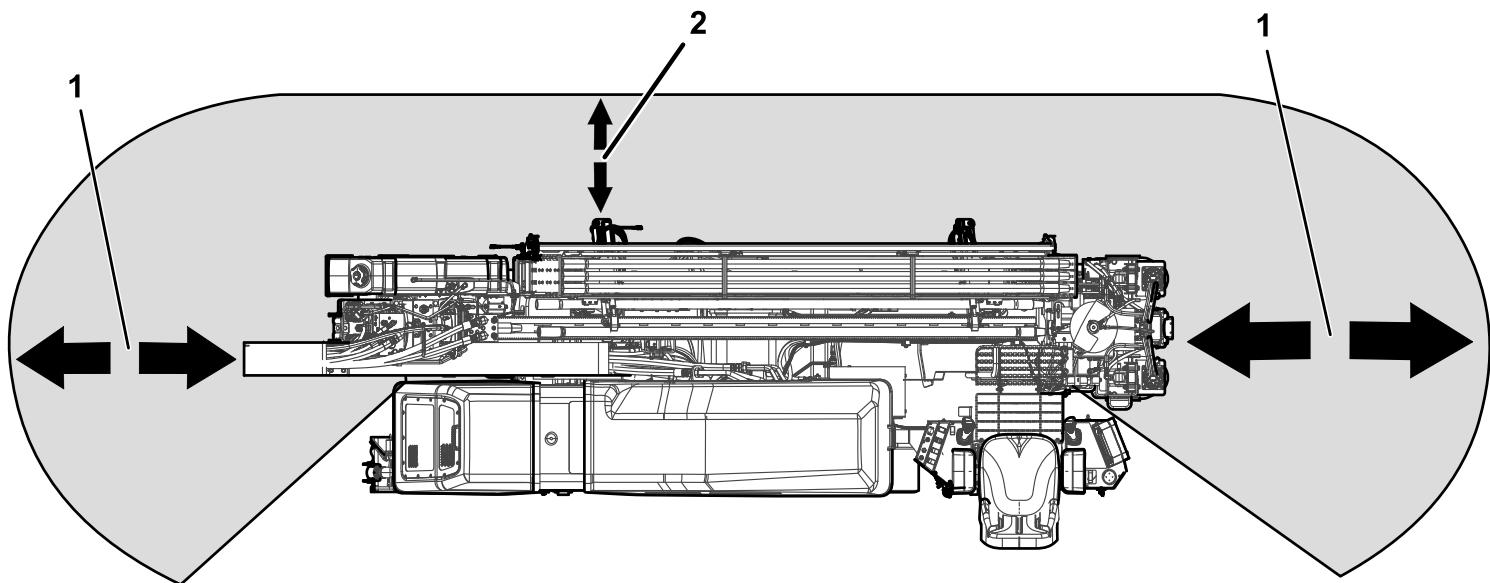

Figure 4
- Always lower the pipe loading guard before drilling (Figure 4).